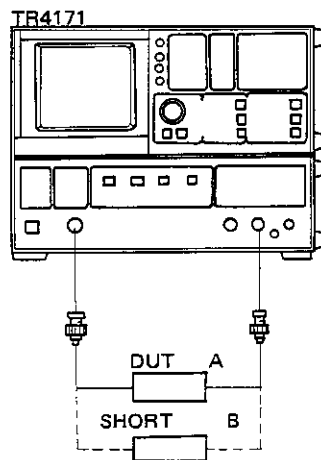
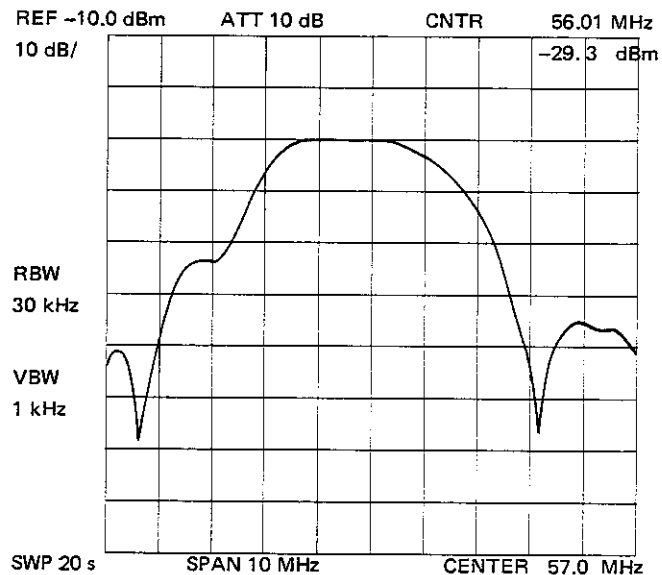

Fig. 6-7 Connection of TR4171 and SAW filter
Fig. 6-8 Phase Display Example
- (1) Connect the DUT (filter) between the TRACKING GENERATOR OUTPUT and INPUT connectors of the TR4171, as shown in Figure 6-7. This connection is illustrated at (A); connection without the DUT is illustrated at (B).
- (1) Set the center frequency, sweep width, input and output conditions for signals, and other necessary conditions for the analysis.
- (2) Disconnect the DUT from the cables, and connect the cables to each other, as shown at (B) in Figure 6-7.
- (3) Press the PHASE key, then press the PHASE SCALE key and select an appropriate range using the DATA step keys or the DATA knob.
- (4) Set the sweep time as described in step (5) in Section 6-1, then press the DELAY OFFSET key to obtain a flat phase response. If fine adjustment is required, press the SHIFT and FINE keys to select the G.D. offset fine mode.
- (5) Press the PHASE OFFSET key to position the phase response trace at the center of the vertical axis.
- (6) Disconnect the cables from each other, and connect the filter for measurement. Figures 6-8 and 6-9 show examples of the amplitude and phase response, respectively, measured for the same filter.